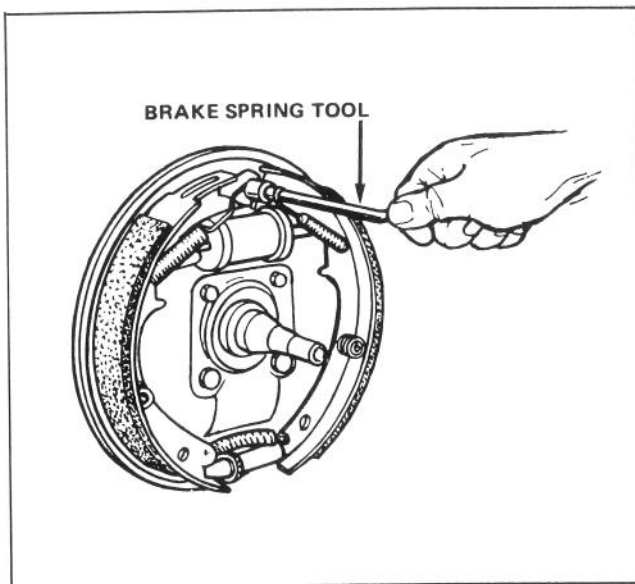

Figure 17. Removing Shoe Return Springs
4. Remove shoe return springs (Figure 17) and automatic adjuster spring. Then remove automatic adjuster cable, cable guide, adjuster lever and shoe guide plate, if used.